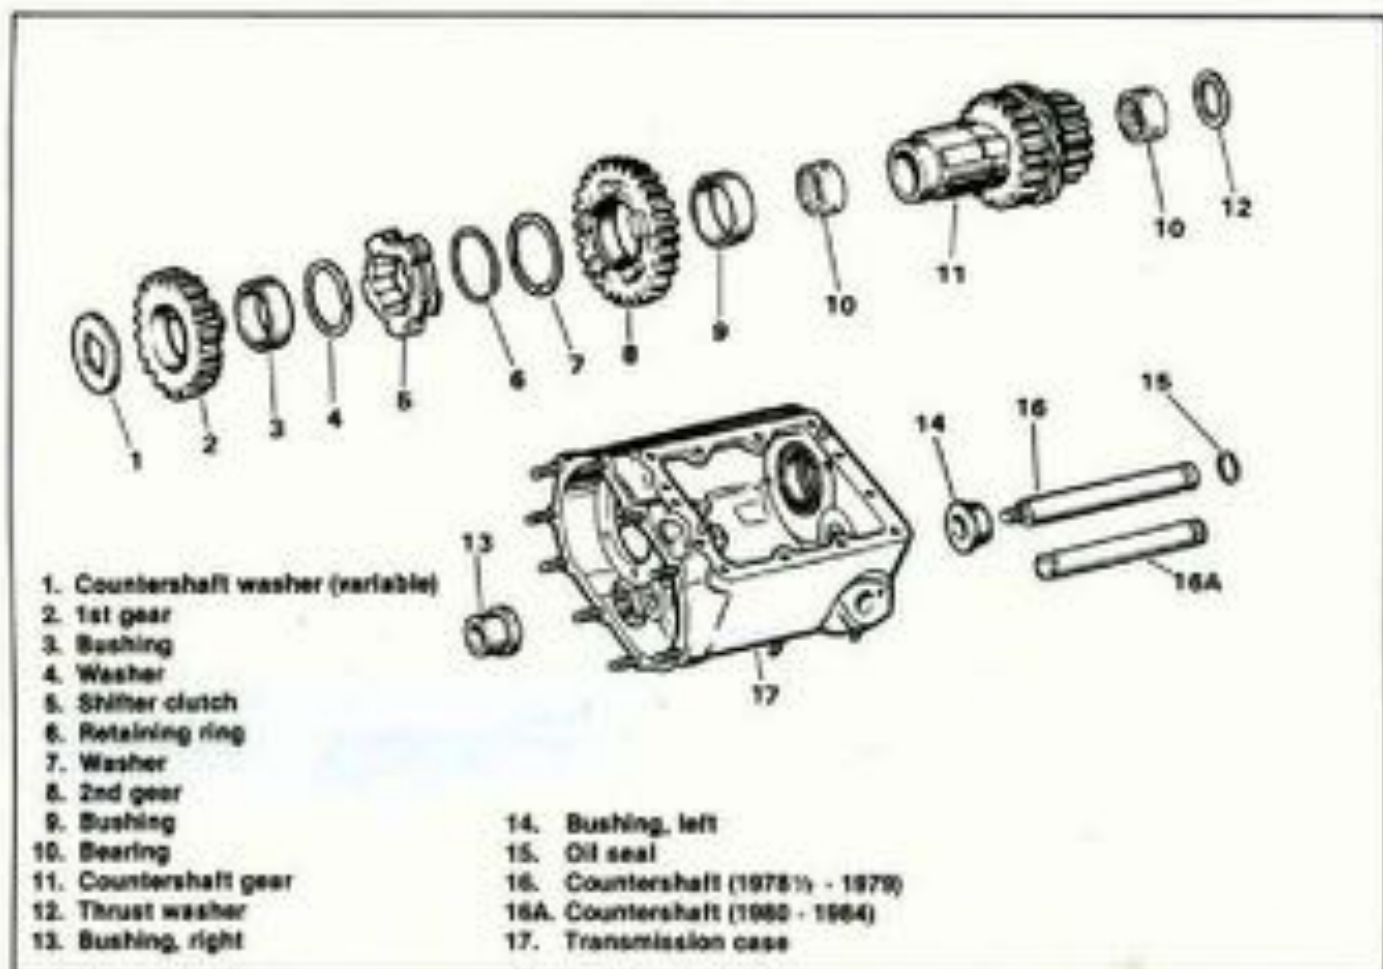

Figure 7-39. Countershaft Assembly — Exploded View
8. See Figure 7-39. Remove the gear cluster and thrust washer (12) from the transmission case. Slide 1st gear (2), bushing (3), washer (4) and shifter clutch (5) off of the gear (11).
9. See Figure 7-39. Use a sharp-pointed tool and remove the retaining ring (6) from the gear (11). Remove the washer (7), 2nd gear (8) and bushing (9) from the gear (11).
### Cleaning, Inspection and Repair (Figure 7-39)
### Assembly (Figure 7-39)